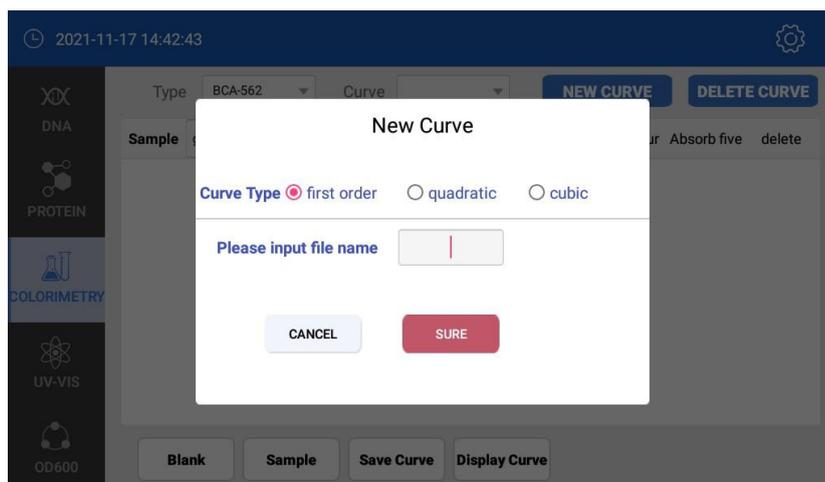

Fig. 5.3 New Curve of Colorimetry
- ② Click g/ml , Choose unit for standard sample, input standard sample concentration
- ③ Click the standard sample name (as Fig 5.3) to choose one standard sample, which will be back-ground-colored blue. According to blank, sample detection order to get the sample Abs. Same method for other samples. Each standard sample can be detected for five time, and get the average. Users can delete the standard sample by long click the standard sample name or other area of the line.
- ④ After all standard samples detected, click “save curve” Save Curve